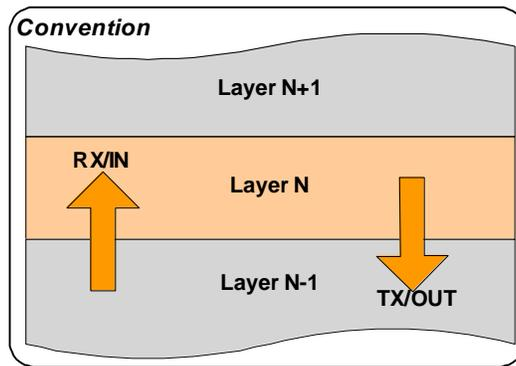

Figure 62 - RX and TX Convention
All statistics presented by CalAmp follow a convention presented in Figure 62. Layer n statistics are given with respect to the layer immediately below it: layer $n-1$. RX (Receive) or IN refers to data received by layer n from layer $n-1$. Transmit (TX) or OUT refers to data transmitted by layer n to layer $n-1$.